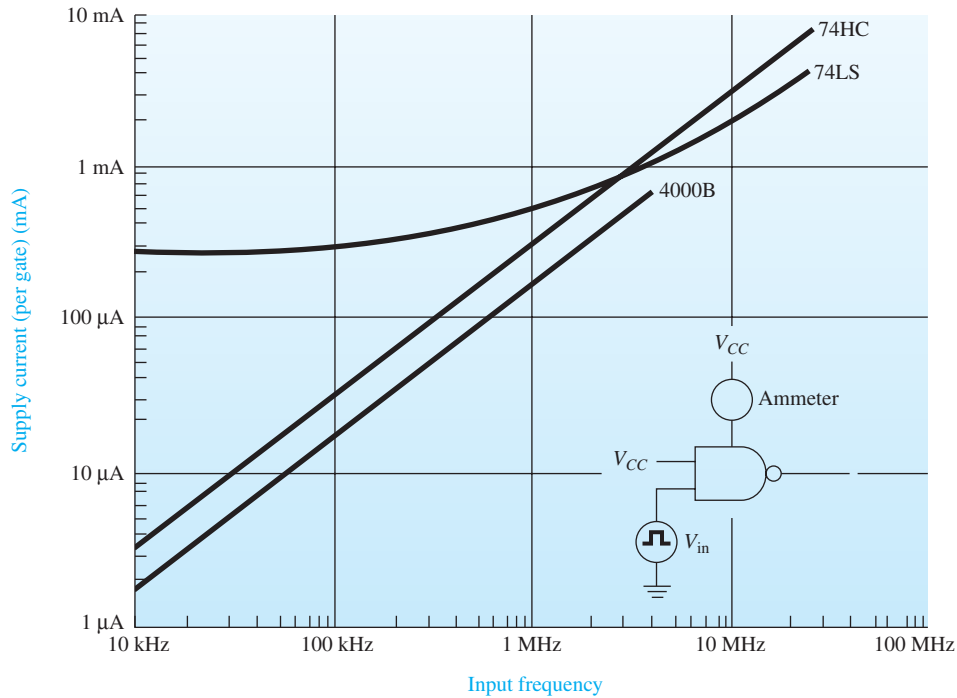

Figure 25 Power supply current versus frequency. (Used with permission from NXP Semiconductors.)
The operating frequency for CMOS devices is critical for determining power dissipation. At very low frequencies, CMOS devices dissipate very little power, but at higher switching frequencies, charging and discharging the gate capacitances draws a heavy current from the power supply (I_{CC}) and, thus, increases the power dissipation ($P_D = V_{CC} \times I_{CC}$), as shown in Figure 25. We see that at high frequencies the power dissipations of 74HC CMOS and 74LS TTL are comparable. At today’s microprocessor clock rates, 74HC CMOS ICs actually dissipate more power than 74LS or 74ALS. However, in typical systems, only a fraction of the gates are connected to switch as fast as the clock rate, so significant power savings can be realized by using the 74HC CMOS series.
19. Use the graph in Figure 25 to determine which logic family has a lower power dissipation at 100 kHz, the 74HC CMOS or 74LS TTL.